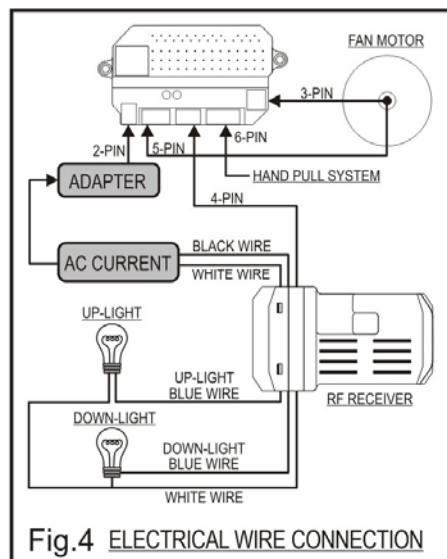

Fig.4 ELECTRICAL WIRE CONNECTION
2. Electrical connections for the motor controller: The connectors for the controller is designed and manufactured to prevent from misconnecting the wires. Simply connect the plug with 2-PIN to the 2-PIN-terminal, and vice versa, 3-PIN's to the 3-PIN-terminal. The 3-PIN plug and the 5-PIN plug are the sources in and out from the motor. The 2-PIN plug is the power source out from the AC adapter. The 4-PIN plug is the source in and out from the receiver. The 6-PIN plug is for the hand pull system. (See Fig.4) Check if the GREEN LED is ON to make sure the motor controller is functioning properly. If the RED LED is ON, turn off the power for 15 seconds and then turn on. If this does not solve the problem please see your local dealers.